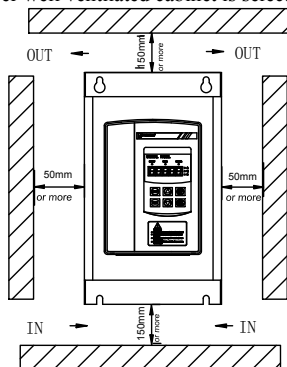
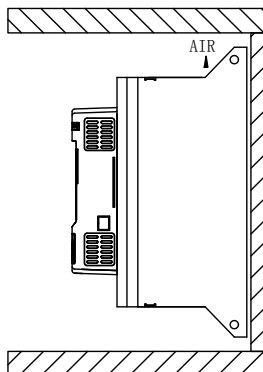

Figure 3.1
Figure 3.2
■Installation direction and distance: In order to ensure that the soft starter in use with good ventilation and cooling conditions, soft starter should be installed vertically, and in the equipment with sufficient heat dissipation space all round, as shown in Figure 3.2 and Figure 3.1, in the photo, to allow the minimum distance.